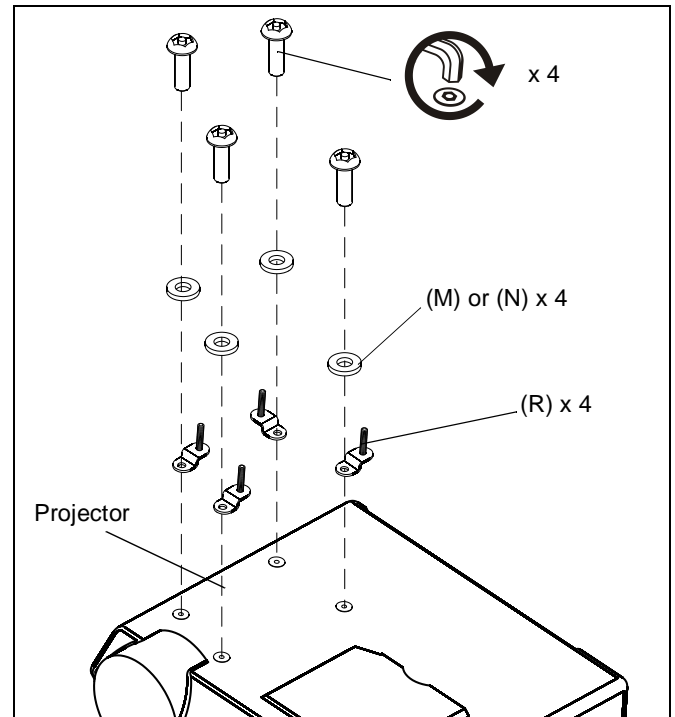

Figure 3
1. Attach the projector security legs (R) to the projector, using the correct size screws and washers for your specific projector. (See Figure 3)